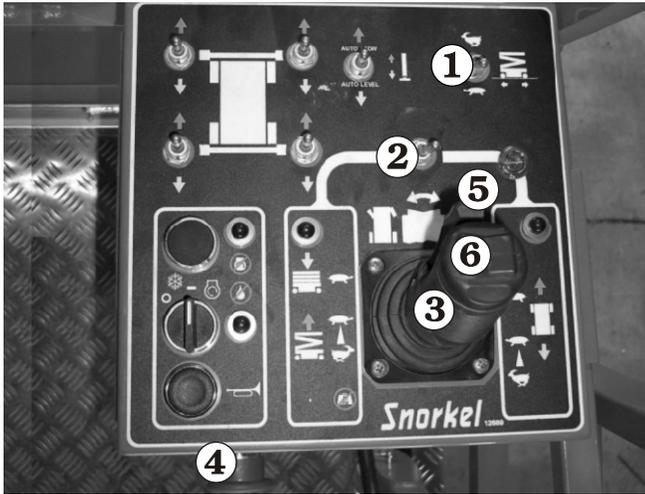

Figure 8.9
2. To raise the platform, press and hold the **Platform Lift/Lower** switch **1** up (see Figure 8.9).
2. Set the **Speed** switch ① to turtle (slow) (see Figure 8.9) if you are going to be driving close to other objects or need to move the S2255RT / S2755RT very slowly for other reasons.
3. Set the **Lift/Drive Selector** switch ② to drive (right) (see Figure 8.9).
4. Squeeze and hold the **Safety Control** ⑤ against the **Joystick Controller** ③ (see Figure 8.9).
5. Push the **Joystick Controller** ③ (see Figure 8.9) slowly forward or pull it slowly backward, depending on which way you want to go. The further you move the joystick the faster the S2255RT / S2755RT moves.
6. To make a right or left turn, press and hold the **Steering** rocker-switch ⑥ on top of the **Joystick Controller** ③ (see Figure 8.9).